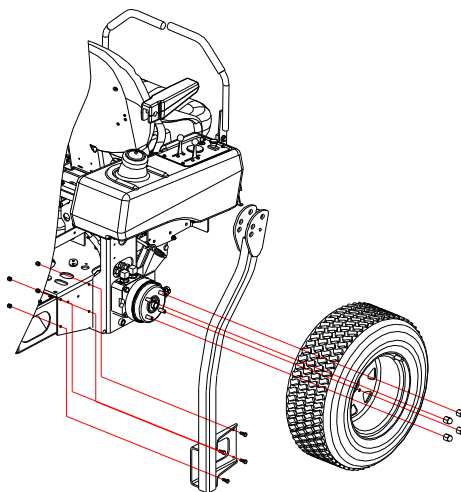

FIG 2
- Align lower roll bar tubes along wheel motor channels as show in Figure 2.
- a) Install drive wheels. (See FIG 2). Secure using four nuts for each wheel. Torque to 125ft-lb (170N-m)